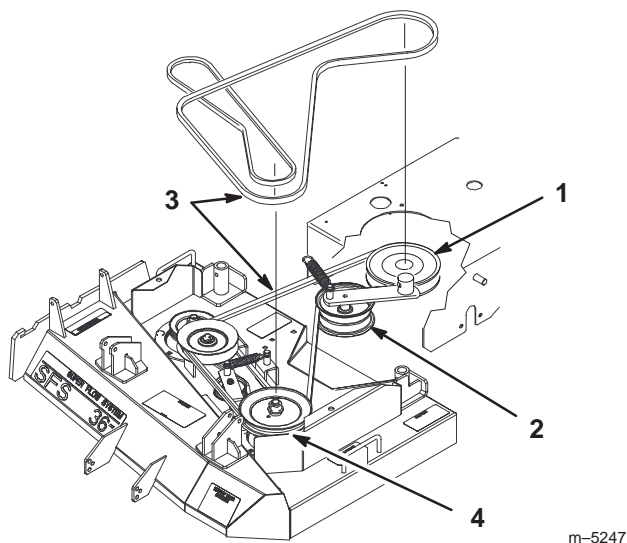

Figure 58
5. Remove the idler spring from idler arm. Remove the drive belt from the PTO engagement pulley and the center spindle pulley (Fig. 58).
6. Remove the worn drive belt (Fig. 58).
7. Install the new drive belt onto the PTO engagement pulley and the top groove of the center spindle pulley (Fig. 58).
8. Install belt onto idler pulley and then install idler spring (Fig. 58).
9. Adjust PTO drive belt guides an 1/8 in. from belt (Fig. 58).